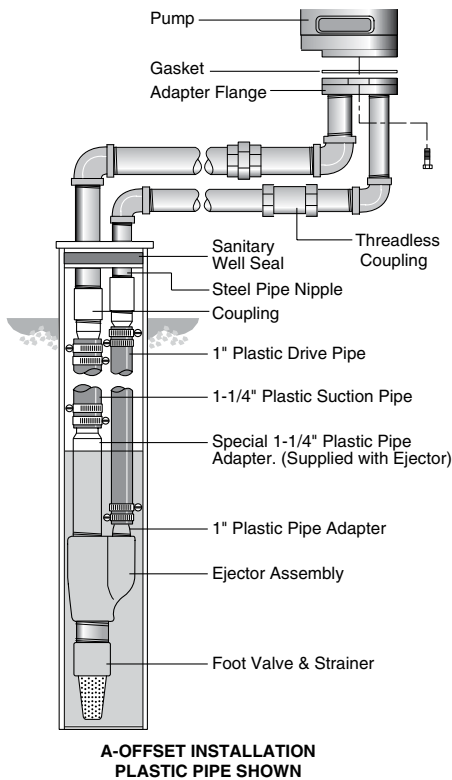

Figure 6
See Figures 6, 7 and 8.
- Step 5. Using PTFE pipe thread sealant tape on male threads, install special plastic pipe adapter (supplied with ejector) by screwing adapter into 1-1/4" tapped hole in ejector body (see Figure 6).
- Step 6. Thread a 1" plastic pipe adapter into the 1" tapped hole in ejector body (see Figure 6).
- Step 9. Install sanitary well seal on top of well casing; use steel nipple through well seal as shown in Figure 6.